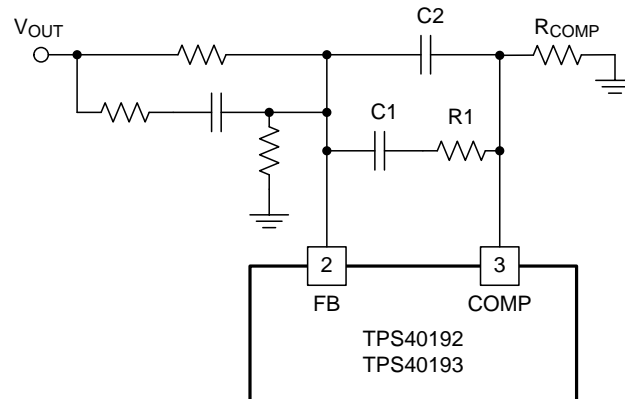

Figure 14. Short Circuit Threshold Feedback Network
- $R1$ and $C1$ are the values of the components in Figure 14